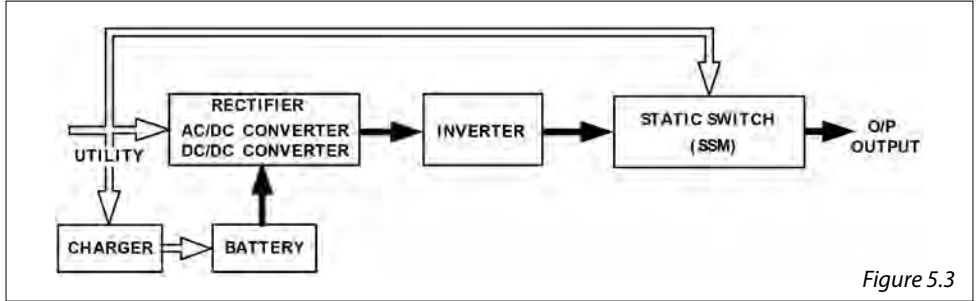

Figure 5.3
3. During a utility outage the UPS will work as illustrated in Figure 5.3. When the batteries are low the buzzer will beep continuously until the batteries are completely cut off. The low-battery protection of the UPS will cut off the battery supply at a preset threshold to avoid over-draining the batteries.